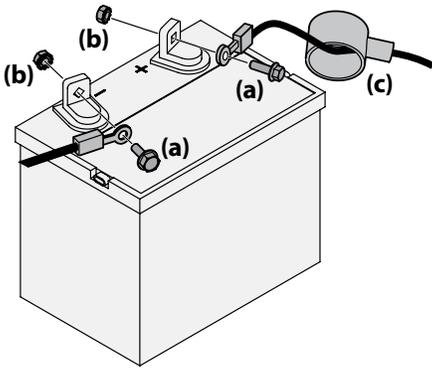

Figure 2-16
1. Remove the plastic cover, if present, from the positive battery terminal and attach the red cable to the positive battery terminal (+) with the bolt (a) and hex nut (b). See Figure 2-16.
2. Remove the plastic cover, if present, from the negative battery terminal and attach the black cable to the negative battery terminal (-) with the bolt (a) and hex nut (b). See Figure 2-16.